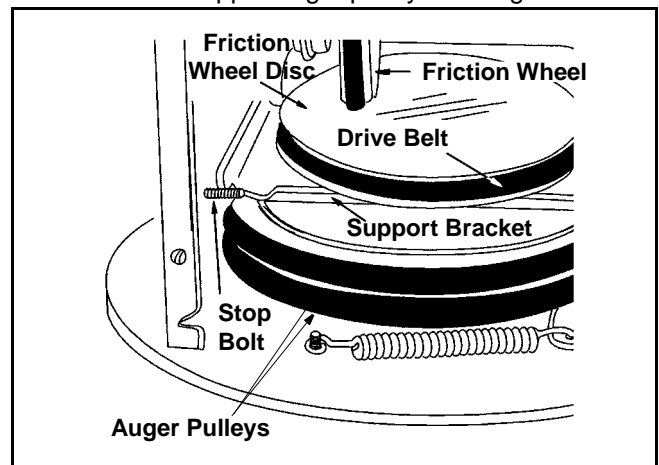

Figure 19
- Back out the stop bolt until the support bracket rests on the upper auger pulley. See Figure 19.
- Back out the stop bolt until the support bracket rests on the auger pulley. See Figure 19.
- Slip belt between friction wheel and friction wheel disc. See Figure 19. Remove and replace belt.
NOTE: The support bracket must rest on the stop bolt after the new belt has been assembled. See Figure 19.